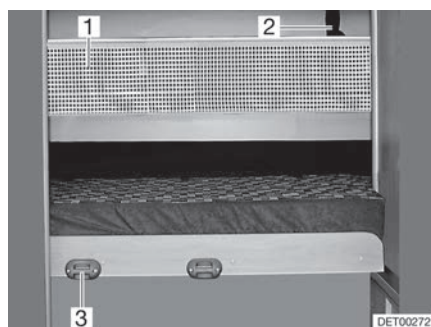

Fig. 78 Safety net
**Attaching:** ■ Attach the access ladder with the rails to the holder (Fig. 78,3) on the panel.
**Safety net** The safety net (Fig. 78,1) is stored as standard between the mattress and slatted frame. Do not use the safety net until the person is already in bed.
**Setting up:** ■ Fasten the retaining straps (Fig. 78,2) to the holders on the ceiling.